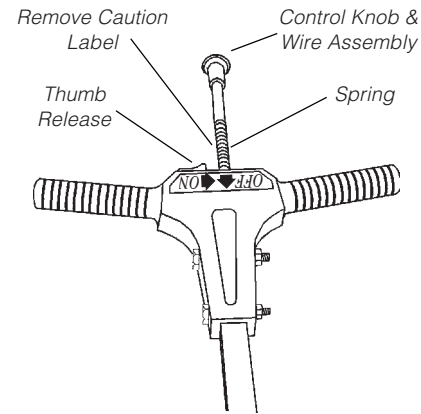

Figure 5
- Remove the caution label, push the thumb release toward the center and push the control knob and spring down until the knob latches. See Figure 5.